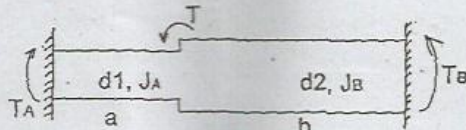

Fig. Q.13(b)(i)
13. (a) (i) A solid shaft has to transmit the Power  $105 \text{ kW}$  at  $2000 \text{ r.p.m.}$  The maximum torque transmitted in each revolution exceeds the mean by  $36\%$ . Find the suitable diameter of the shaft, if the shear stress is not to exceed  $75 \text{ N/mm}^2$  and maximum angle of twist is  $1.5^\circ$  in a length of  $3.30 \text{ m}$  and  $G = 0.80 \times 10^5 \text{ N/mm}^2$ . (8)
- (ii) A laminated spring carries a central load of  $5200 \text{ N}$  and it is made of ' $n$ ' number of plates,  $80 \text{ mm}$  wide,  $7 \text{ mm}$  thick and length  $500 \text{ mm}$ . Find the numbers of plates, if the maximum deflection is  $10 \text{ mm}$ . Let  $E = 2.0 \times 10^5 \text{ N/mm}^2$ . (5)
- (b) (i) A stepped solid circular shaft is built in at its ends and subject to an externally applied torque  $T$  at the shoulder as shown in fig. Q.13(b)(i). Determine the angle of rotation  $\theta$  of the shoulder section when  $T$  is applied. (7)